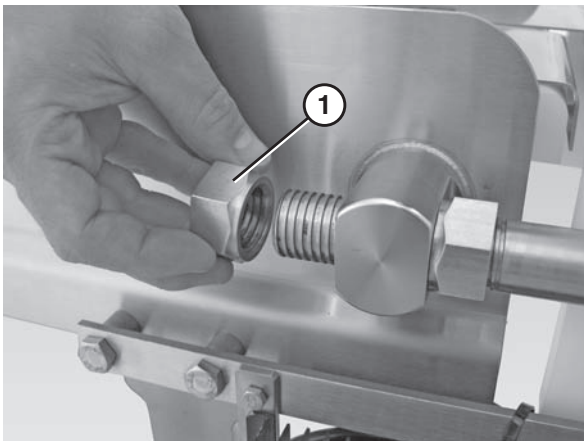

Figure 68
1. Remove the back nuts (**Figure 68, item 1**) on both discharge nose bar shafts.